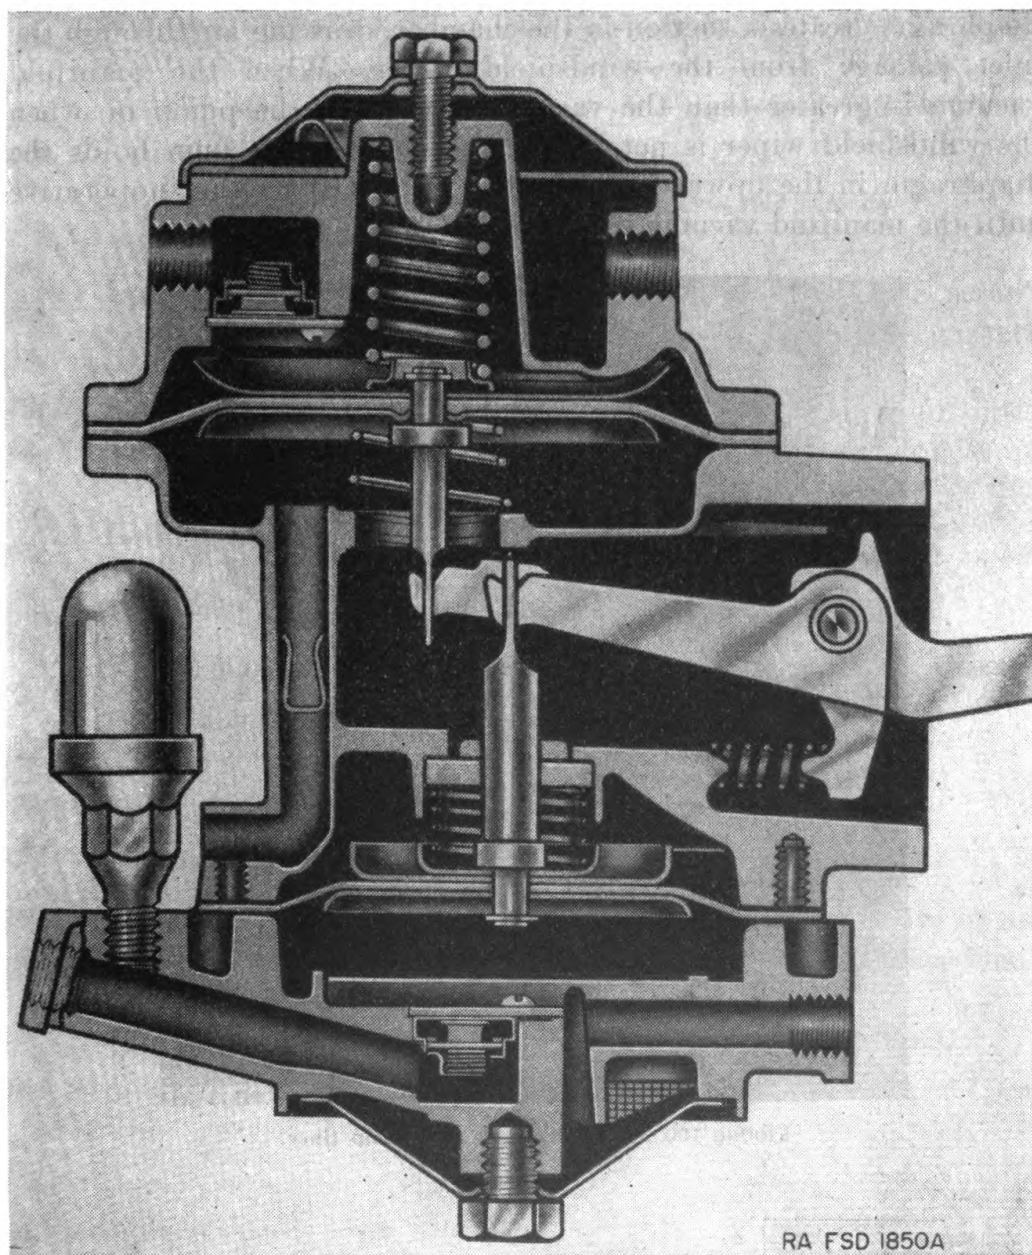

FIGURE 189.—Fuel pump, sectionalized.
(1) *Construction (fig. 189).*—The combined fuel and vacuum pump is of the diaphragm type, with two chambers independent of each other, except that both diaphragms are actuated by a single rocker arm. The lower chamber supplies fuel to the carburetor and the upper chamber acts as a vacuum booster for the windshield wiper at low manifold depression. The diaphragms, which are made of a specially treated material, are held between metal disks. These disks also hold the diaphragm link rods, which are attached to the rocker arm. Coil springs are used to actuate the diaphragm on the return stroke of the rocker arm. An air dome is used at the fuel pump outlet to eliminate surging of fuel delivered to the carburetor. The inlet and outlet valves are interchangeable, each consisting of a fiber disk valve and spring assembled in a cage. Two retaining clamps with screws hold the valve assemblies in position.